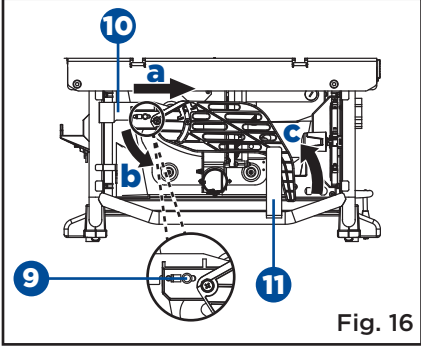
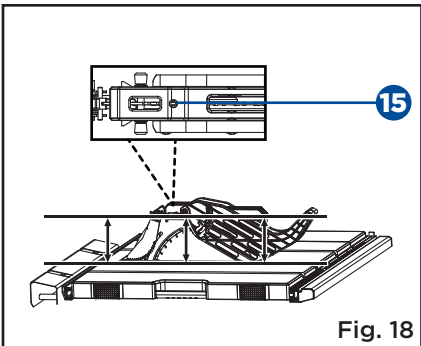

Fig. 16
Fig. 18
- Hold the knobs (9) (one on either side of the blade guard) and push the knobs forward to the front of the blade guard and down until the pin comes out from the notch in the mounting bracket (blade guard storage I) (10) at top left rear side of the saw, then raise the blade guard up from the U-bracket (blade guard storage II) (11) at bottom right rear side of the saw and remove the blade guard from the blade guard storage. (Fig. 16)
- Hold and push knobs (9) forward to the front of the blade guard. Place the pin (12) on the blade guard (13) into the notch (14) indicated on the riving knife (6).
Make sure that blade guard body is parallel to the table. If it is not, adjust the set screw (15) as necessary. (Fig. 18)